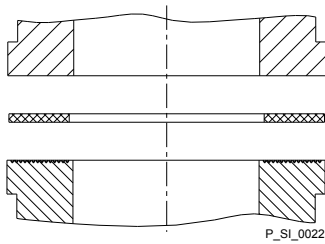

Fig. 13: Flat elastomer seal for a smooth insert
- However, in the event that a smooth insert is used (e.g. third party component), use a flat elastomer seal - see Fig. 13.